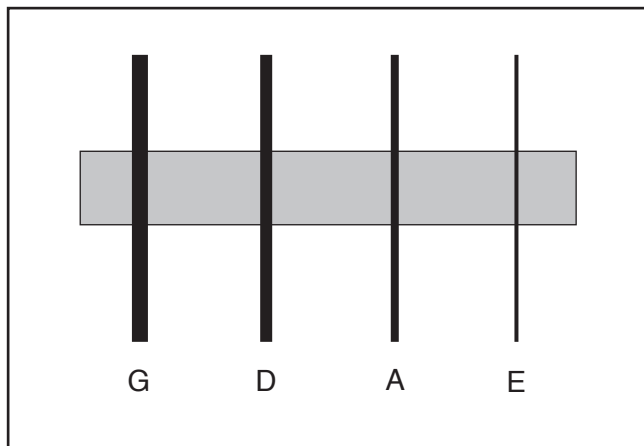

Figure 26. String positions.
- The goal when tuning is to make the strings in tune with one another. Standard tuning is shown in **Figure 26** on **Page 17**.
1. Start tuning violin by choosing either D or A string to start (see **Figure 26**).